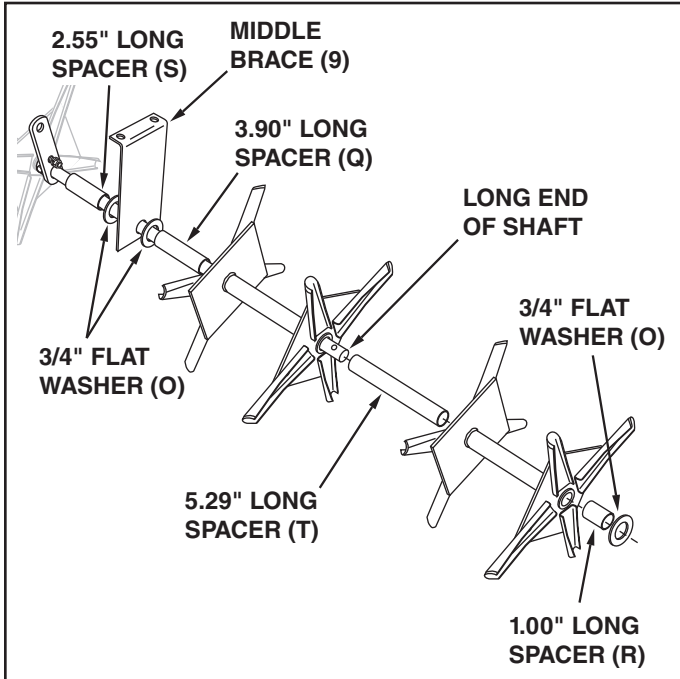

FIGURE 4
6. Assemble a 2.55" long spacer (S), a 3/4" flat washer (O), the middle brace (9), a 3/4" flat washer (O) and a 3.90" long spacer (Q) onto the **long end** of the shaft. The bent lip of the middle brace must face the short end of the shaft. Next assemble a spool assembly, a 5.29" long spacer (T), another spool assembly, a 1.00" long spacer (R) and a 3/4" flat washer (O) onto the shaft. See figure 4.